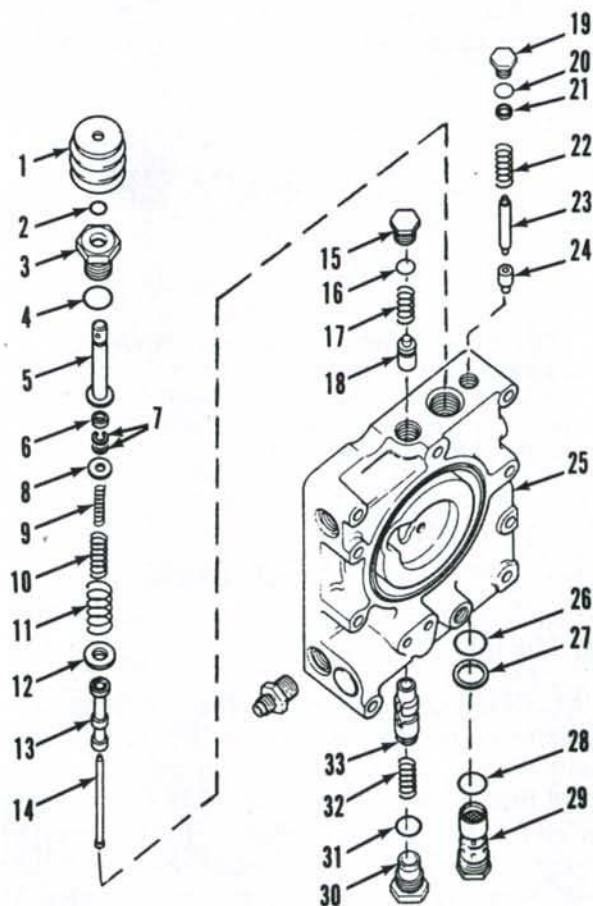

Fig. 33—Exploded view of the multiple control valve assembly.
22. PRIORITY FLOW DIVIDER. To check the flow divider valve (33—Fig. 33), first remove the pilot relief valve (29) and install a test pilot relief valve from test kit No. 399858R92. Disconnect power steering supply pipe (directly below hydraulic filter). Cap the pipe and connect the inlet hose of a flowmeter to the steering supply union. Place the flowmeter outlet hose in the transmission oil fill hole and secure with wire. Move the position and draft control levers fully forward to prevent hitch movement during test. Fully open load valve on flowmeter. Start and operate engine at low idle speed. Turn load valve until a reading of 1000 psi (6895 kPa) is on pressure gage and record the flow. Increase the load to 1600 psi (11032 kPa) and record the flow. Fully close the load valve and record the reading on pressure gage. Then, fully open the load valve. Increase the engine speed to 2180 rpm on Models 385 and 485, 2300 rpm on Model 585 and 2400 rpm on Models 685 and 885. Repeat the steering flow checks and maximum pressure test at the correct rpm for each model. All of the flow readings should be between 2.6 and 3.1 gpm (9.9 and 11.8 L/min.). Maximum pressure with the load valve fully closed must be 2500 to 2600 psi (17238 to 17927 kPa).
25. HYDRAULIC PUMP. To check flow and pressure of the hydraulic pump, first remove the plug (30—Fig. 33) for the flow divider. Remove spring (32) and spool (33), then reinstall plug. Remove the pilot relief valve (29) and install a test pilot relief valve from test kit No. 399858R92. Disconnect the power steering supply pipe (directly below hydraulic filter). Cap the pipe and union on multiple control valve with high pressure caps. Disconnect hitch supply line (bottom rear line on multiple control valve) and cap the line. Connect the inlet hose from the flowmeter to the hitch supply union on the multiple control valve. Place outlet hose from flowmeter into transmission oil fill hole and wire in place. Fully open load valve on flowmeter. Start engine and operate at a speed of 2180 rpm for Models 385 and 485, 2300 rpm for Model 585 or 2400 rpm for Models 685 and 885. Record the flow. Close load control valve to obtain
28. R&R AND OVERHAUL. To remove the flow divider spool (33—Fig. 33) and spring (32), remove plug (30) with "O" ring (31). Clean and inspect parts. Spring (32) should have a free length of 3.253 inches (82.63 mm) and should test 29.7 lbs. (132 N) when compressed to a length of 2.017 inches (51.23 mm). Check spool (33) and spool bore in multiple control valve housing (25) for excessive wear, scoring or other damage. Spool (33) and housing (25) are a matched set and are renewed only as a new multiple control valve assembly.